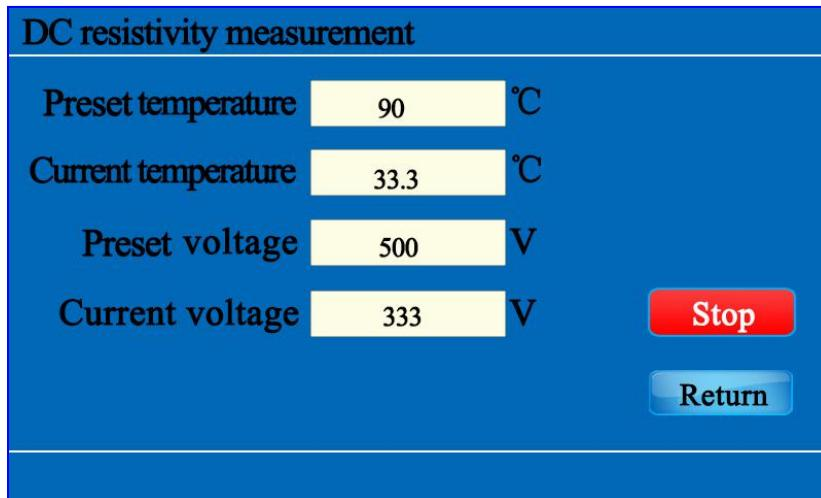

Fig.9-2
② DC resistivity screen is shown in Figure 9-2: